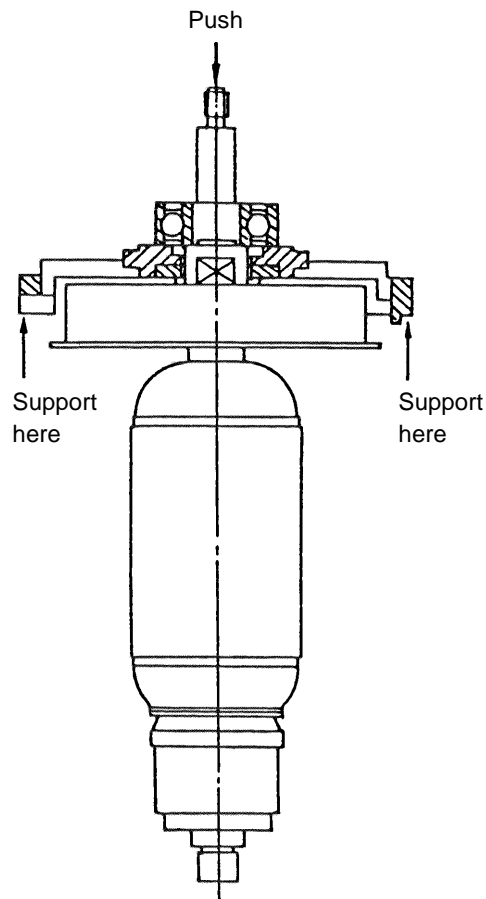

Fig. 4
- (4) Lightly push the Lock Plate (11) so that it moves into the Gear Cover Ass'y (2). Then, while holding the Gear Cover Ass'y (2), extract the Armature Ass'y (12) together with the Inner Cover (10).
- (5) Remove the Spring (9) from the Inner Cover (10) and Lock Plate (11).
- (6) Carefully wrap the Armature Ass'y (12) with a soft, clean rag to protect it from being damaged, and clamp it securely in a vise. Then, remove the M8 U-Nut (3), and extract the Pinion (4).
- (7) After shifting the Lock Plate (11) to ensure that the Armature Ass'y (12) will rotate smoothly, support the Inner Cover (10) with an appropriate jig as illustrated in Fig. 4, and push out the Armature Ass'y (12) with an arbor press.